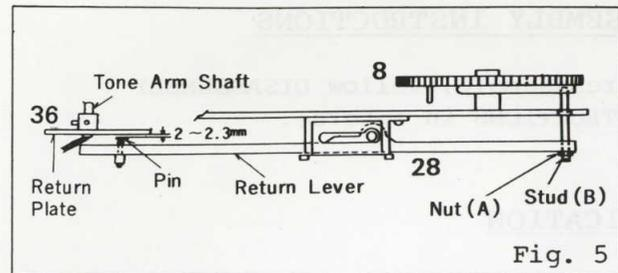

Fig. 5
2. Loosen Nut (A) shown in Fig. 5. Adjust the clearance between the Return Plate (36) and the Return Lever Pin to be 2 to 2.3 mm by turning Stud (B) with a screwdriver. (Figure 5)
3. Tighten Nut (A) completely.
See Item II under "Auto Return Adjustment". (Figure 5)